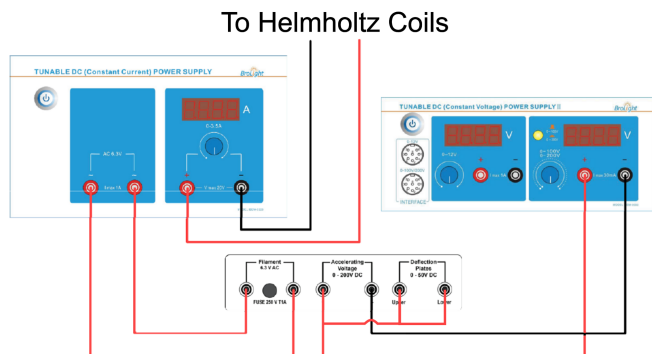

Figure 3. Cable setup for older e/m tubes.
1. Connect a wire between the ports for the upper and lower deflection plates, as shown in Figure 3.